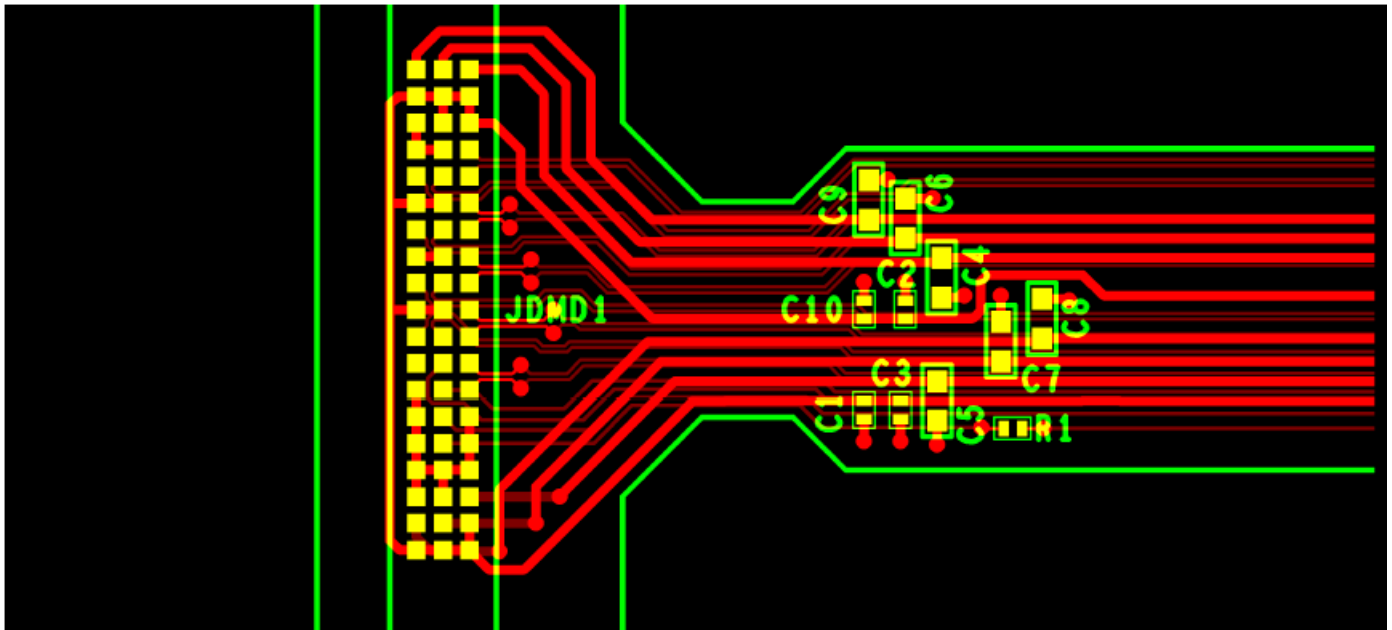

图 10-1. Power Supply Connections
- Minimize vias, layer changes, and turns for the HS bus signals. Refer 图 10-1.
- Minimum of two 100-nF decoupling capacitor close to VBIAS. Capacitor C6 and C7 in 图 10-1.
- Minimum of two 100-nF decoupling capacitor close to VRST. Capacitor C9 and C8 in 图 10-1.
- Minimum of two 220-nF decoupling capacitor close to VOFS. Capacitor C5 and C4 in 图 10-1.
- Minimum of four 100-nF decoupling capacitor close to VDDI and VDD. Capacitor C1, C2, C3 and C10 in 图 10-1.